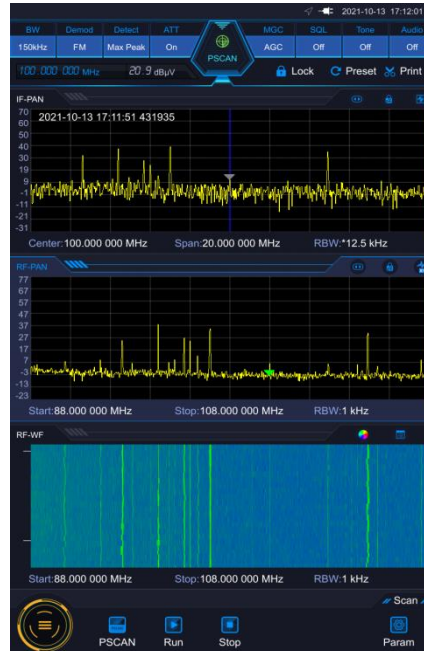

Fig. 4.8 Panoramic Scan Mode
Step 1. Set the operating mode. Select [System Menu] to pop up the menu, select [Scan] icon and [Panoramic Scan] to enter the panoramic scan mode. As shown in Figure 4.8.